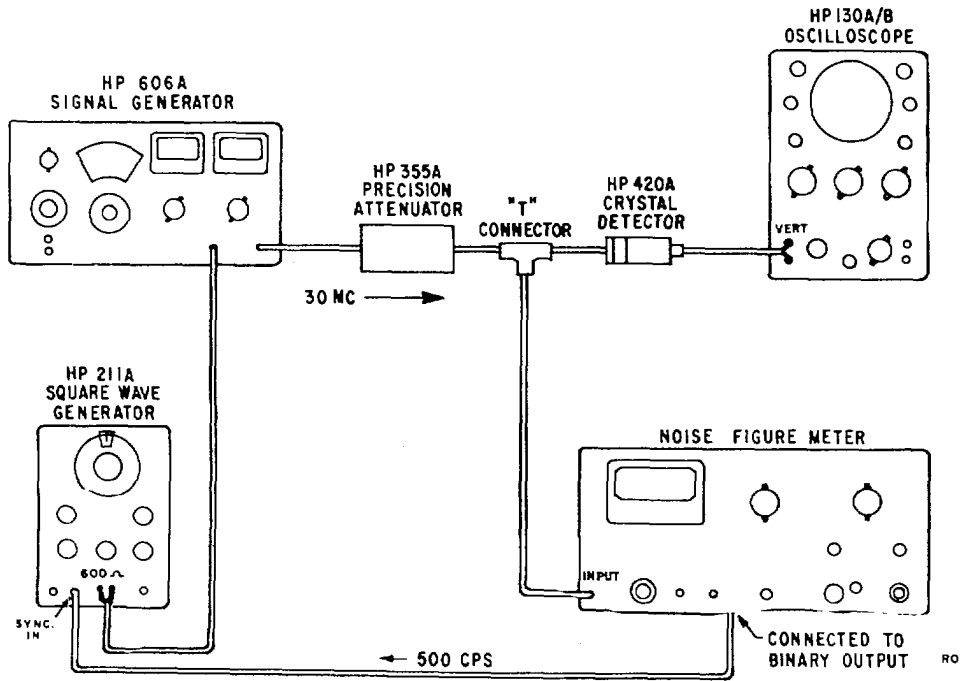

Figure 4-4. Test Setup for Meter Tracking
- 5) an oscilloscope with a high sensitivity of 1 millivolt/cm, such as an - Model 130B. Equipment connection is shown in \_Figure 4-4
1) Remove the rear cover of 342A. Connect equipment as shown in Figure 4-4; turn on equipment and allow warm up period of 30 minutes.